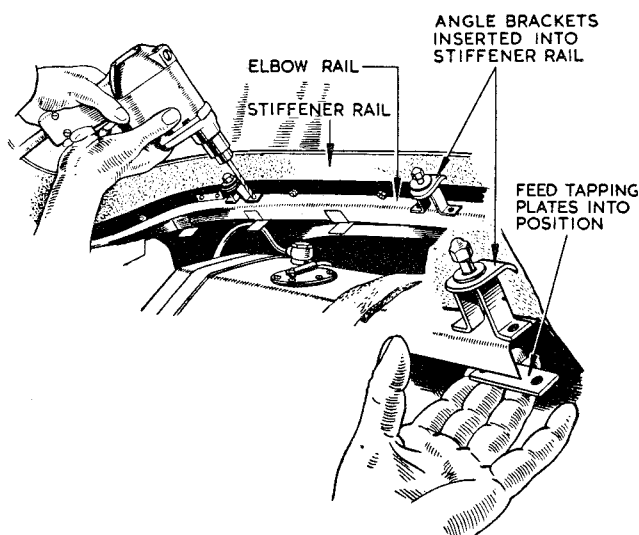

Fig. 4 Drilling the Elbow Rail and installing Bridge Pieces.
- (b) If not already fitted, insert the three shorter angle brackets through slots in the stiffener rail at the rear of the “Hard Top”, and a longer angle bracket at each side. Using short flat headed screws and lockwashers, secure the brackets in position. (Fig. 4.)
- (a) Loosely secure the five bridge pieces to the angle brackets previously fitted in the rear stiffener rail. (Fig. 4.)
- (b) Reposition the "Hard Top" to the car and secure to the three windscreen attachment brackets. The bridge pieces will now be resting on the elbow rail channel. (Fig. 4.)
- (e) Remove the bridge pieces from the "Hard Top" and secure to the elbow rail channel, using flat headed screws which screw into tapping plates fed into position under the channel. (Fig. 4.)